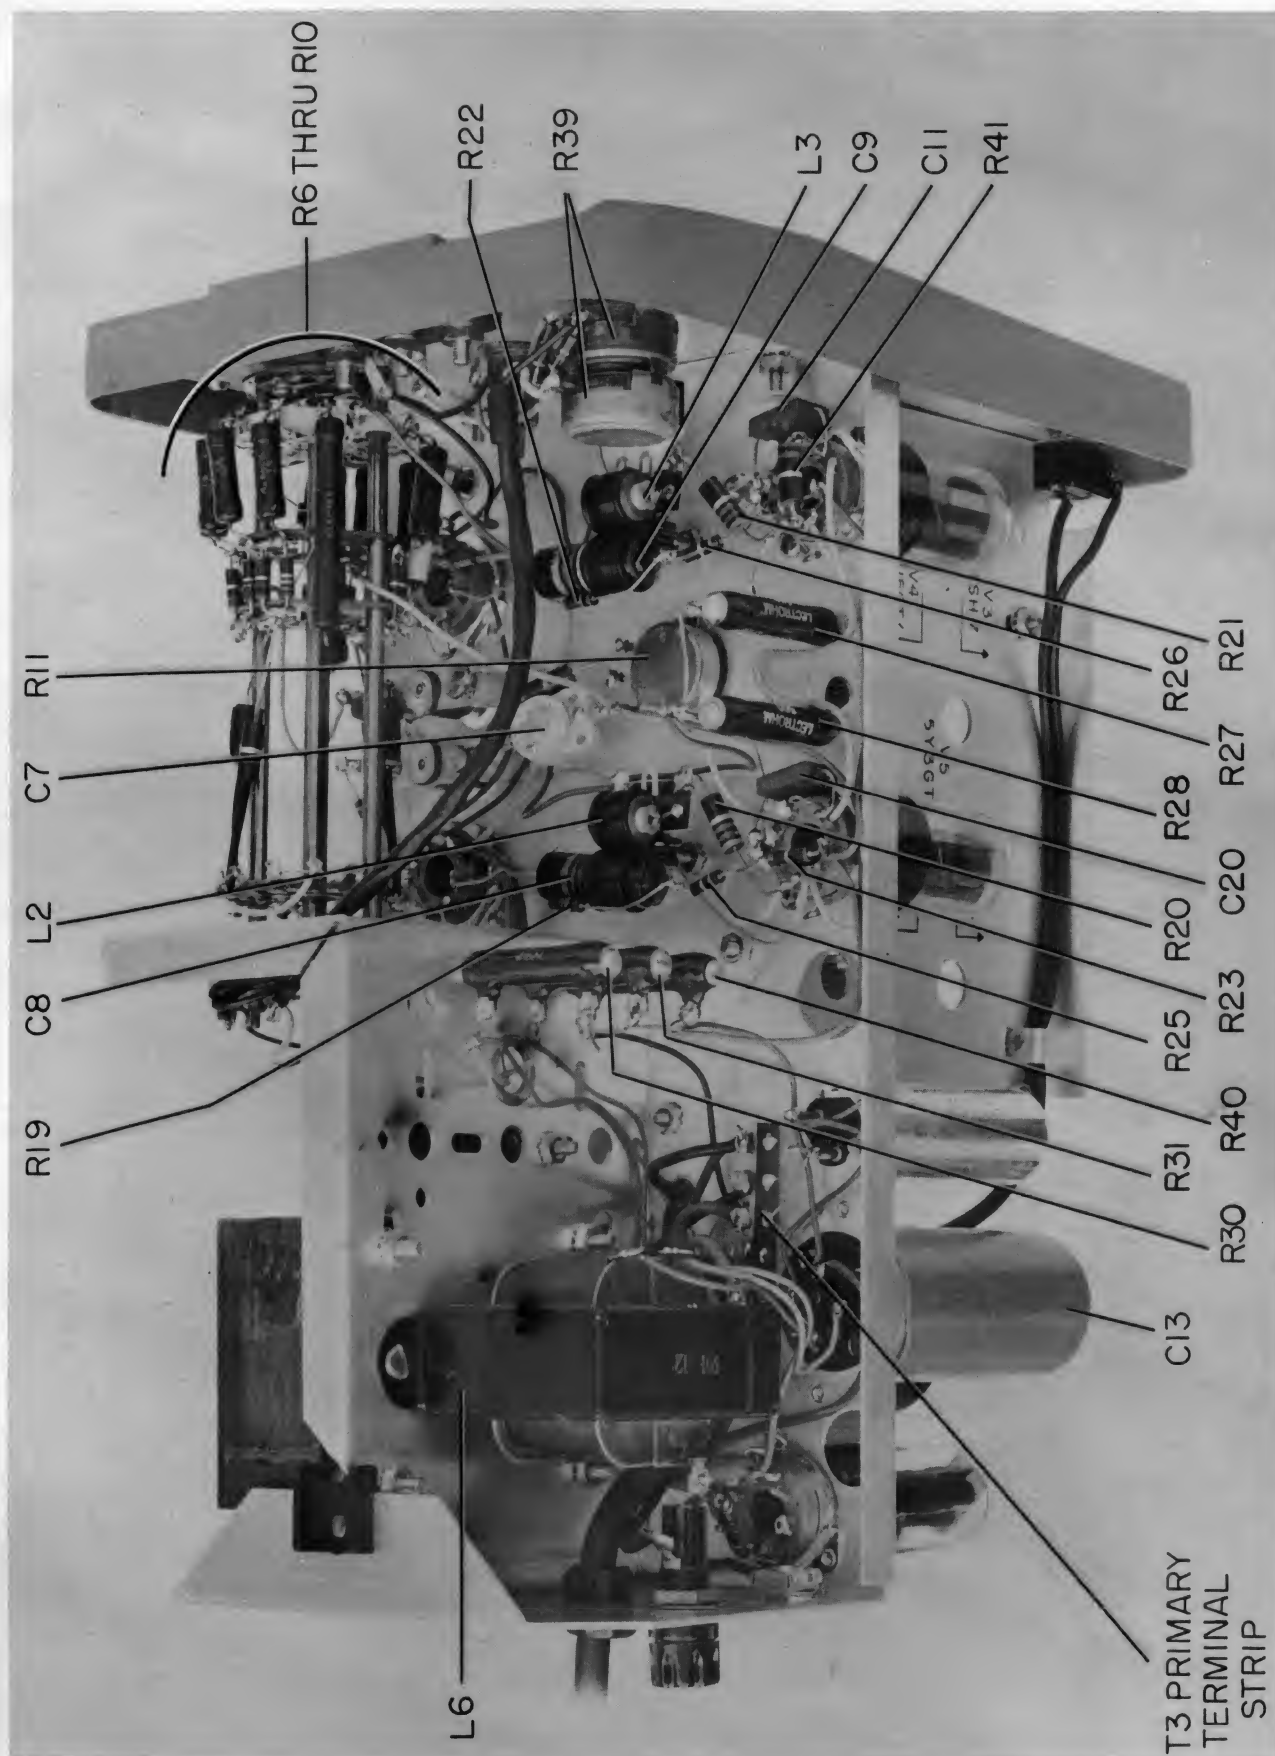

Figure 4-3 Model 200CD View of Right Side Bottom Side Up
2) If "60" on X10K range not on calibration, adjust C7 (Figure 4-3).
Connections to the primary winding of power transformer T3 are brought out to a terminal strip (identified in Figure 4-3) mounted on the right side of the instrument.